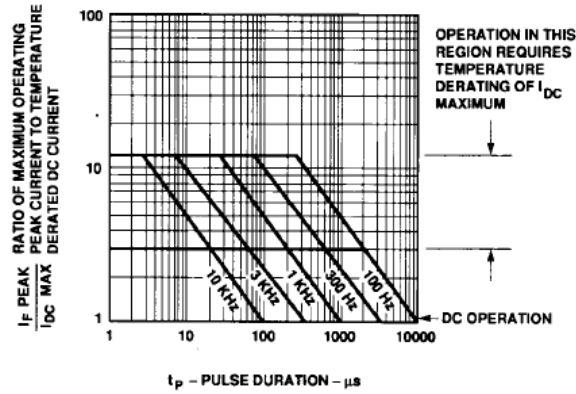

Figure 8. Maximum Tolerable Peak Current vs. Pulse Duration – Green.
7. See Figure 8 to establish pulsed conditions.